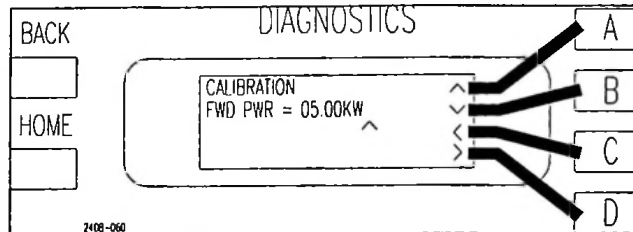

Figure 5-6 Forward Power Calibration Screen
- STEP 10** Set the power level in the FWD POWER CAL screen [HOME,MORE,CONFIGURATION C,C] (see Figure 5-6) to 05.00kW or the TPO at which you are calibrating.